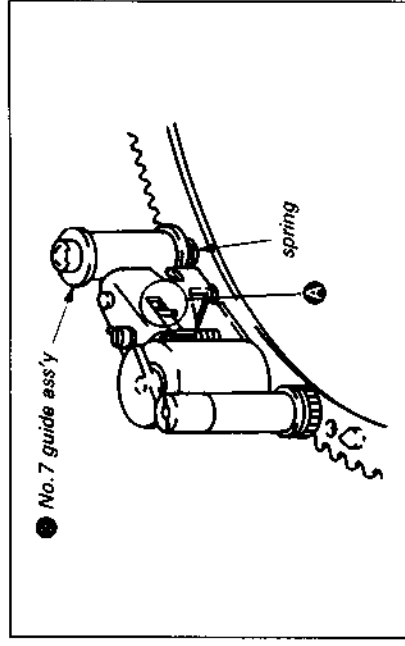

Fig. 7-24.
- 4) Place the spring on No. 7 guide assembly ●. At this time, check that the spring is hooked on section A. (See Fig. 7-24.)